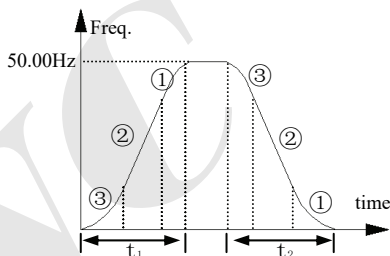

Fig. 7-2 S curve acc/dece
1: S curve acc/dece mode. Output frequency raise or decline as the S curve: as fig.7-2.
S curve starts interval time as fig.7-2 ③ , output frequency changed slope increase slowly from zero.
S curve up interval time as fig.7-2 ② , output frequency changed slope is constant.
S curve ends interval time as fig.7-2 ① , output frequency changed slope decrease slowly to zero.